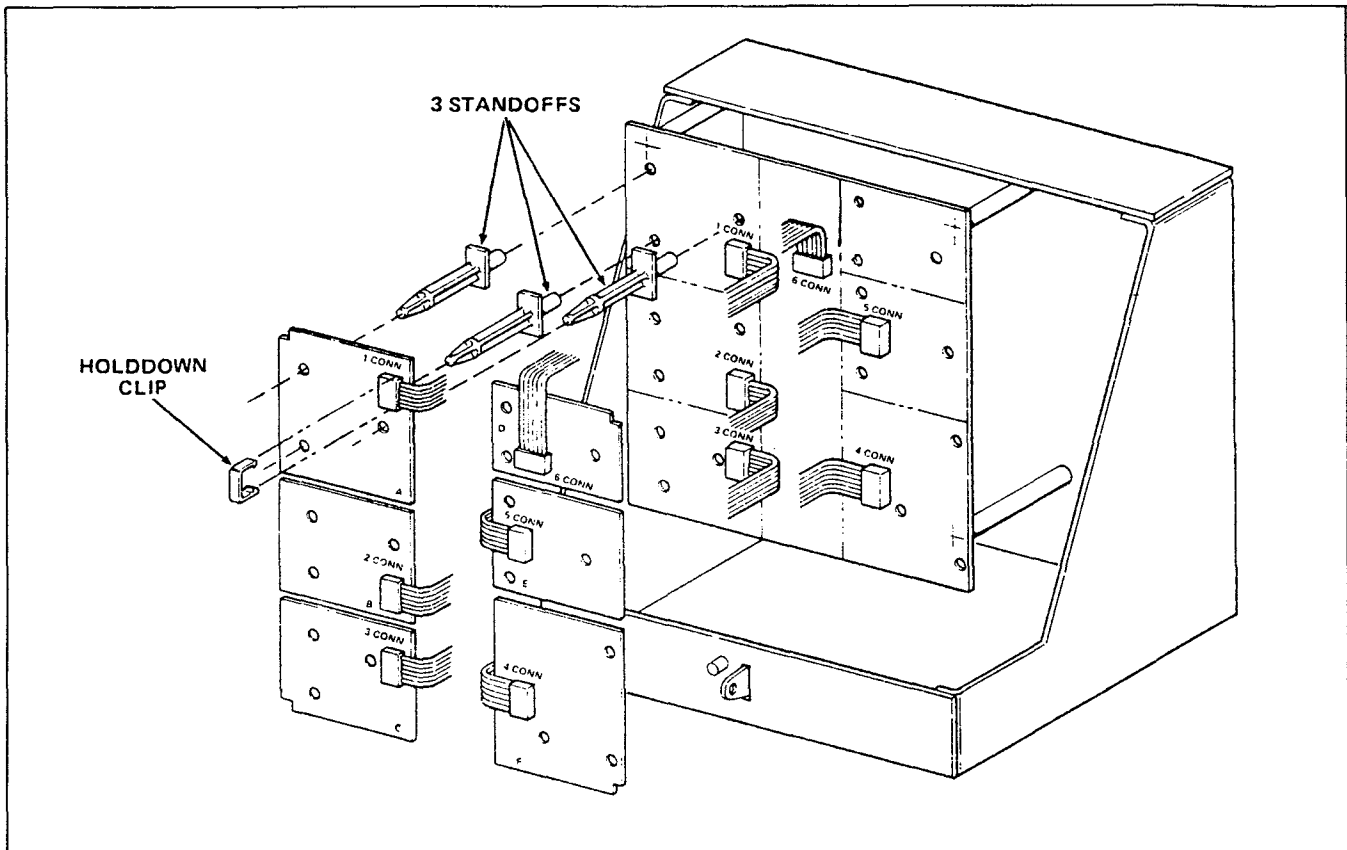

Figure 5 Modification PCB Location
- 1 Locate modification area on Regulator PCB as illustrated in Figure 5